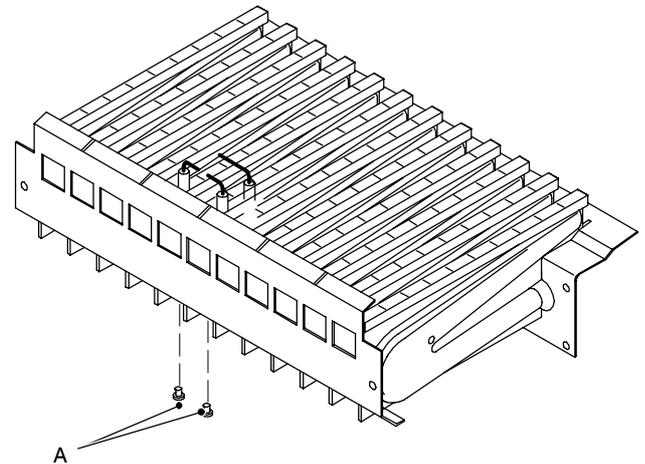

Fig. 3
- 3 Remove the plate E (see Fig. 3 on page 8).
- 5 Unscrew the screws A (Fig. 3) which hold the electrodes to the burner.